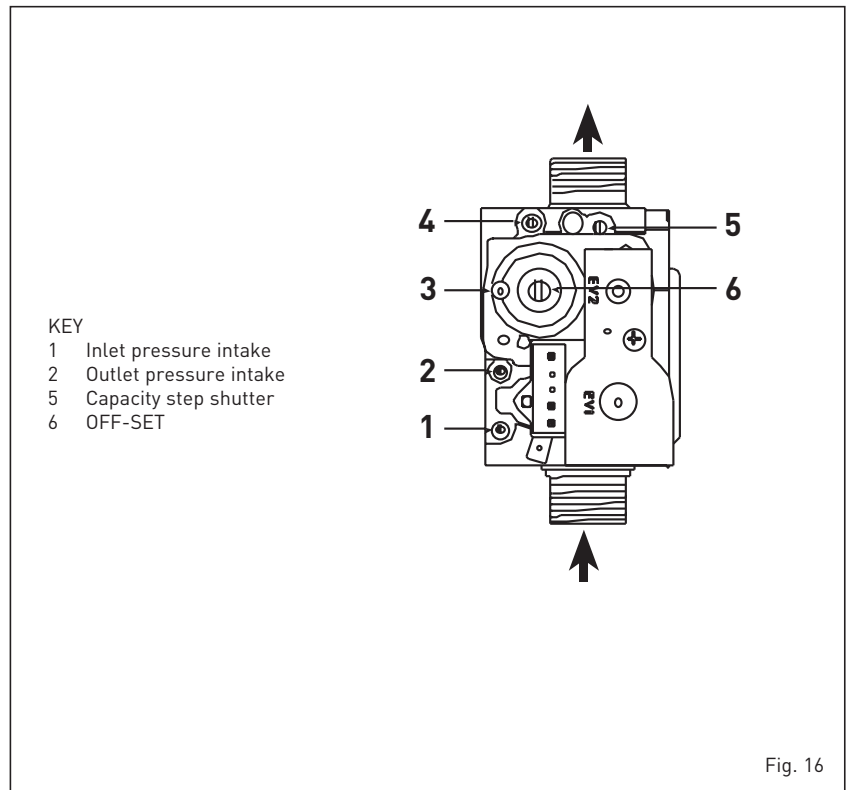

Fig. 16
With the boiler operating in the maximum rate condition check that the operational (working) gas pressure at the inlet gas pressure test point (see fig 16 item 1) complies with the requirements of table 1.3.
If the combustion reading is greater than the acceptable value AND the integrity of the complete flue system, combustion circuit seals have been verified, AND the gas inlet pressure has been verified, AND the boiler parameter settings are correct, proceed as shown in 4.2.2. Any adjustments should be done in small steps and adjustments of no more than 1/8th of a turn should be made, waiting at least 1 minute between adjustments to allow the settings to stabilise. Using the CO2 reading, adjustments should be made to the "OFF-SET" screw (6 fig 16) if it is incorrect at the minimum output, or to the "SHUTTER" (5 fig 16) if it is incorrect at the maximum output.
#### 4.1 GAS VALVE (fig. 16)
The boiler is supplied as standard with the SIT 848 SIGMA gas valve (fig. 16).
- 3) Identify the CO2 values at max. power by adjusting the shutter (5 fig. 16):
- 5) Identify the CO2 values at min. power by adjusting the OFF-SET regulation screw (6 fig. 16):